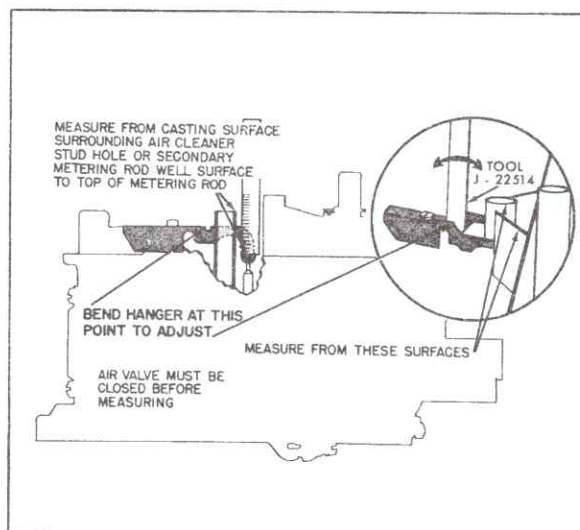

Fig. 6-96 Secondary Metering Rod Adjustment
## 78. Secondary Metering Rod Adjustment (Fig. 6-96)
1. To check secondary metering rod adjustment, measure from top of metering rod to top of air horn casting next to air cleaner stud hole, as shown in Fig. 6-96. The correct dimension is given in the following chart.
### SECONDARY METERING ROD HEIGHT SPECIFICATION AS SHOWN IN FIG. 6-96
2. If adjustment is necessary, bend metering rod hanger with tool J-22514 at point shown in Fig. 6-96. Make sure both rods are adjusted to same dimension.